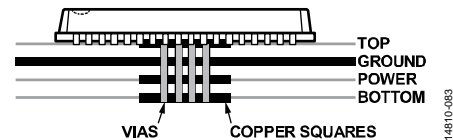

Figure 87. Exposed Pad Layout Example—Side View
- Place a copper layer, equal in size to the exposed pad, on all layers of the board, from top to bottom. Connect the copper layers to a dedicated copper board layer (see Figure 87).